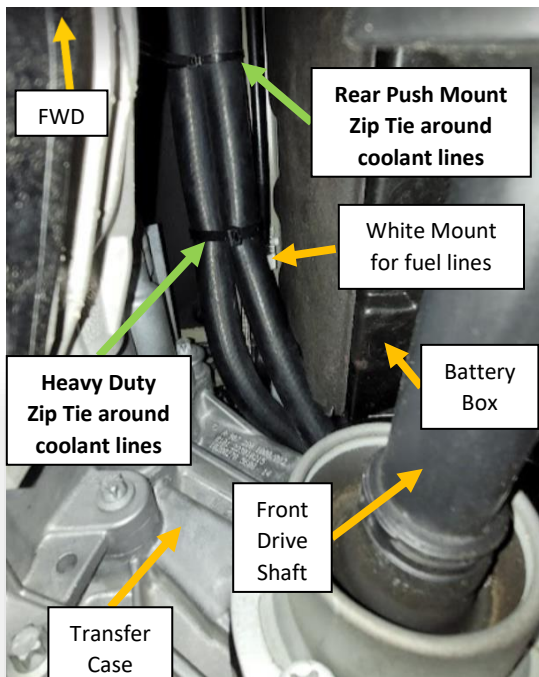

Figure 3a
- d. Continue to follow the coolant lines toward the front of the van. Closely inspect the (2) coolant lines in the area between the battery box and the transmission from the transfer case to the front differential above the front drive shaft. **Verify there is a heavy duty zip tie around the coolant lines above the transfer case in front of the white routing mount for the fuel lines and there are at least (2) additional zip ties around the coolant lines securing them to the chassis frame above the front drive shaft so that the coolant lines are not allowed to contact the front drive shaft, transmission or transfer case.** See figures 3a and 3b.